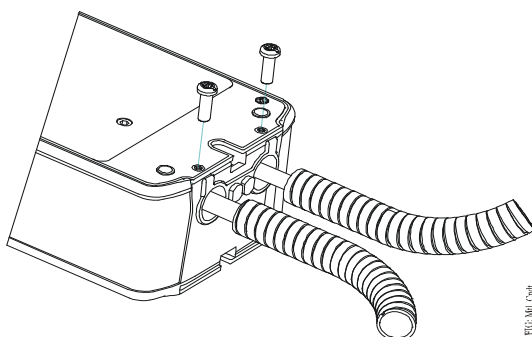

Figure 22: Adding flexible metal conduit
2. Push the conduit into the holes in the actuator and secure it with the supplied 10-32 x 9/16 in. screws, as illustrated in Figure 22. The product label marks the position of holes for the screws. Drive the screws through the product label in the marked positions. Drive the screwhead flush with the plate to secure the conduit.